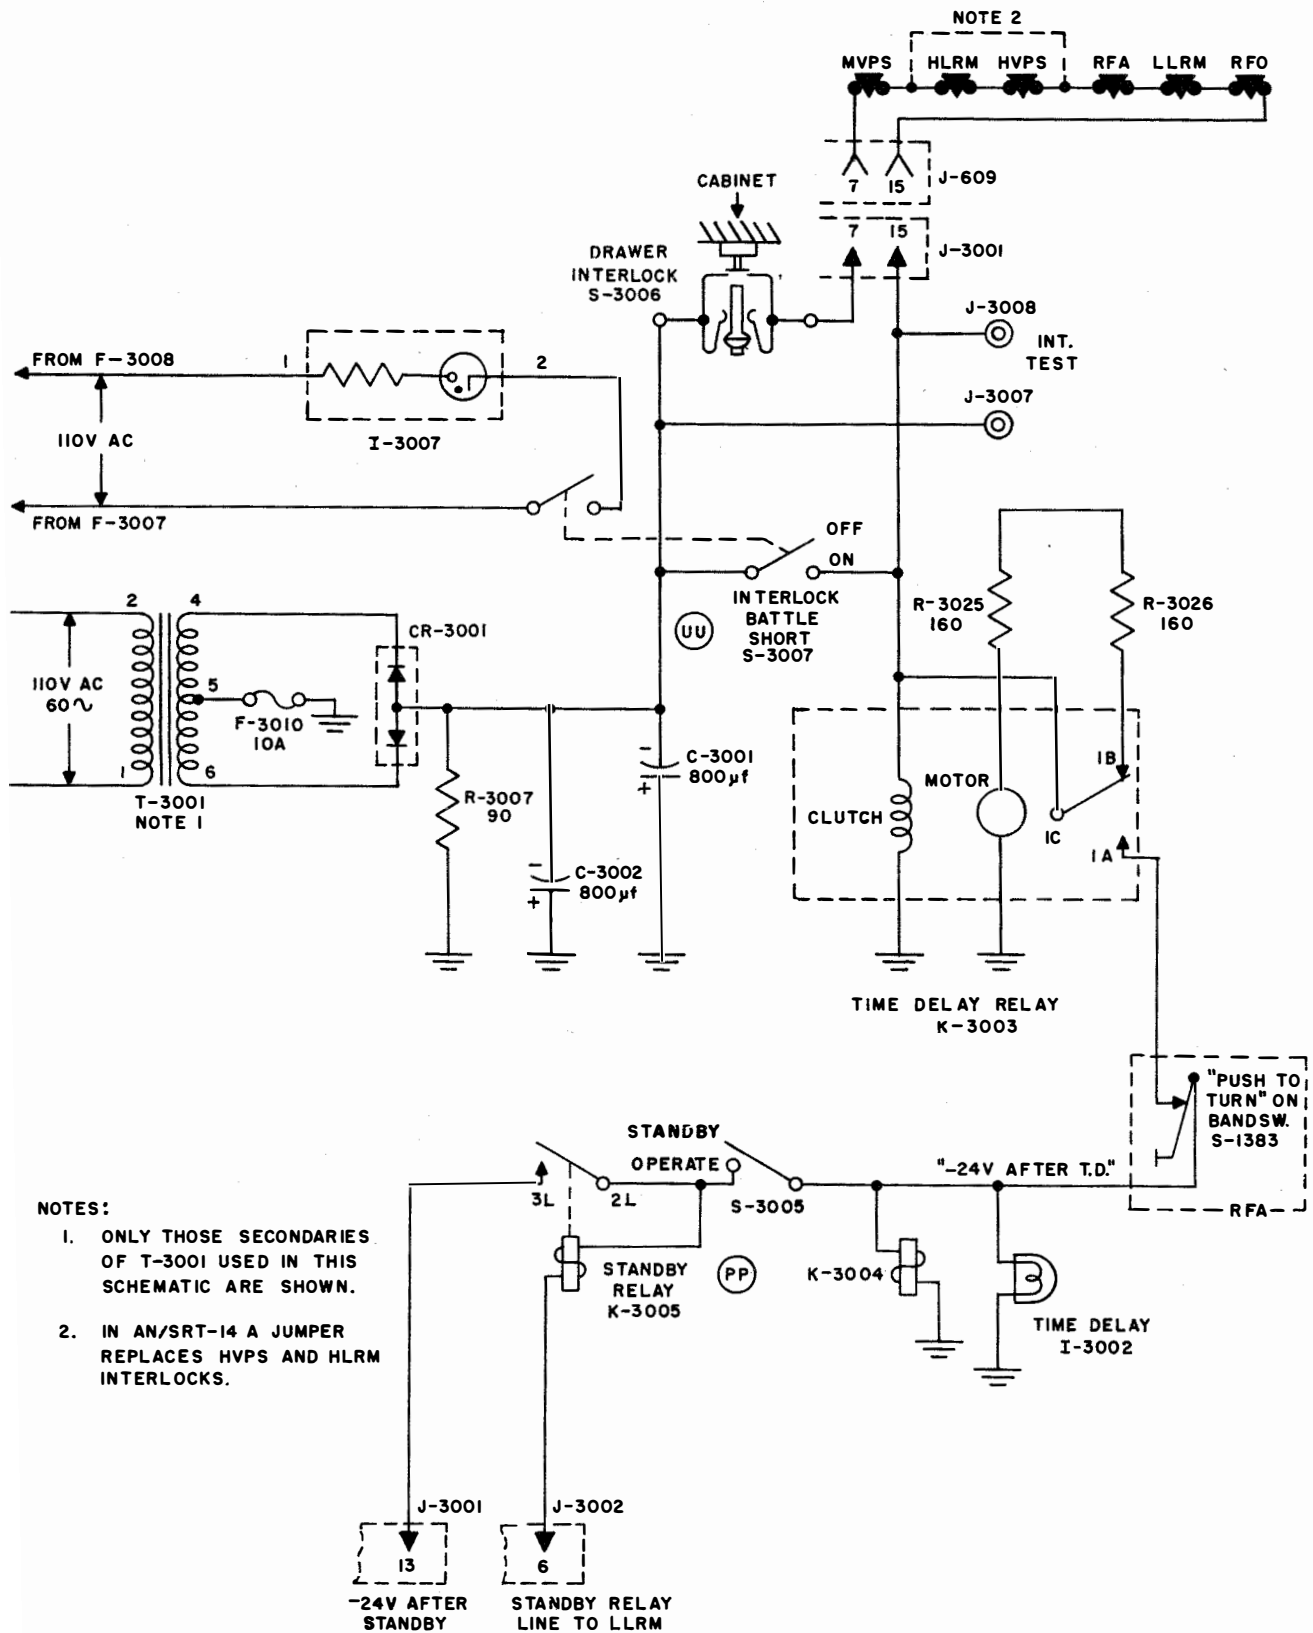

Figure 2-57. Interlock Circuit and -24-Volt D-C Supply, Simplified Schematic
d. INTERLOCK CIRCUIT AND -24-VOLT D-C SUPPLY.—The -24-volt d-c supply is taken from the secondary terminals 4 and 6 (48 volts rms) of T-3001, through the full-wave metallic rectifier, CR-3001, and is filtered by C-3001, C-3002, and R-3007. This supply is returned to ground through fuse F-3010 and center-tap terminal 5 of T-3001. (See figure 2-57.)
interlocks are similar to the interlock in the LVPS shown in detail in figure 2-57. As the chassis of any major unit in the transmitter group in the AN/SRT-14, 15 and 16 may be pulled out without disconnecting the chassis from the cabinet wiring, the interlock switch, S-3006, is a drawer interlock. When the chassis is completely seated in the cabinet, this interlock is shorted. If the plug of the cabinet wiring is correctly mated to the cabinet wiring receptacle, the circuit will be advanced through all the interlocks and return to K-3003. The drawer interlock may be shorted out when the chassis is in the "out" position by means of a push button incorporated in the interlock. As a protective measure, this push button is manually restored when the chassis is resealed in the cabinet. The INTERLOCK BATTLE SHORT (U), S-3007, bypasses the drawer interlocks when it is in the ON position by connecting the output of the filtered -24-volt supply directly to the time delay relay. When S-3007 is ON, the INTERLOCK BATTLE SHORT indicator, I-3007, is energized by 110 volts ac, through the closed contacts of S-3007. Receptacle J-3007 and J-3008, designated INT. TEST, are provided to test the continuity of the interlocks by measuring with the probes of a standard test ohmmeter.